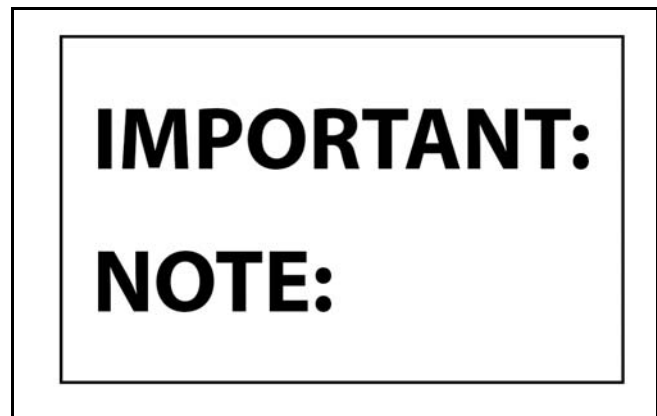

Figure 2
**[Figure 2]** - NOTE and IMPORTANT